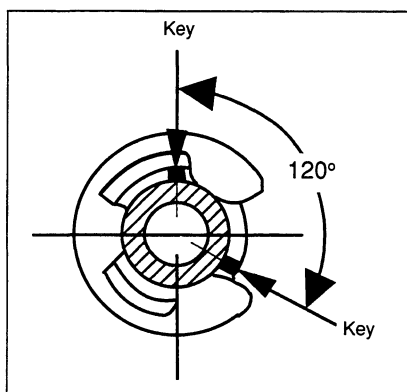
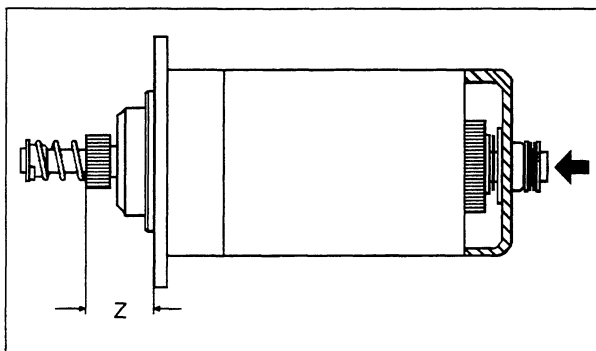

Fig. 14 Circlip Position
Fig. 18 'Z' Dimension
- (i) Fit the original inner shim(s) (18) onto the armature shaft and assemble the commutator end shield (19).
- (iii) Replace the outer thrust washers and shim washers, coated with the specified grease. Fit a new circlip (25) in a position where one of the two circlip groove keys is located in the gap between the ends of the circlip (see fig. 14).
- (i) Remove the inner shim(s) and the thrust washer (18) from the armature shaft and assemble the
commutator end shield (19) to the yoke. (It is not necessary to fit the sealing ring (17) yet). Fit the through bolts and tab washers; tighten them to the specified torque. Fit the two outer thrust washers and circlip, ensuring that its sharp edge is facing the thrust washers as illustrated in fig. 14.
- (v) Fit a new sealing ring (17) and replace the commutator end shield. Fit the through bolts ensuring that the O-rings and tab washers are in place, with the tabs located in the recess cast in the end shield. Ensure that both through bolts have been screwed fully home and that both end shields are correctly located on the yoke spigot. Tighten the bolts to the specified torque.
- (vi) Replace the outer thrust washers and shim washers (coated with the specified grease). Fit a new circlip (25) with one of the "keys" in the groove in the shaft located in the gap between the arms of the circlip. See Fig. 14.
- (i) If no gauge is available, push the armature shaft towards the drive end, hard against the pack of shim(s) and thrust washers; measure distance 'Z' by placing a straight-edge across the outer face of the pinion (fig. 18). If this distance is within the specified tolerance (see Section 6.1), renew the circlip (25) ensuring that it is fitted with the sharp edge towards the thrust washer and as shown in Fig. 14. Fit the recoil components as described in Section 4.10.
- a) If 'Z' is larger than the maximum specified, add shims, having a total thickness equal to the calculated difference, to the outer shim pack (26).
- b) If 'Z' is smaller than the minimum specified, remove shims, having a total thickness equal to the calculated difference, from the outer shim pack (26).